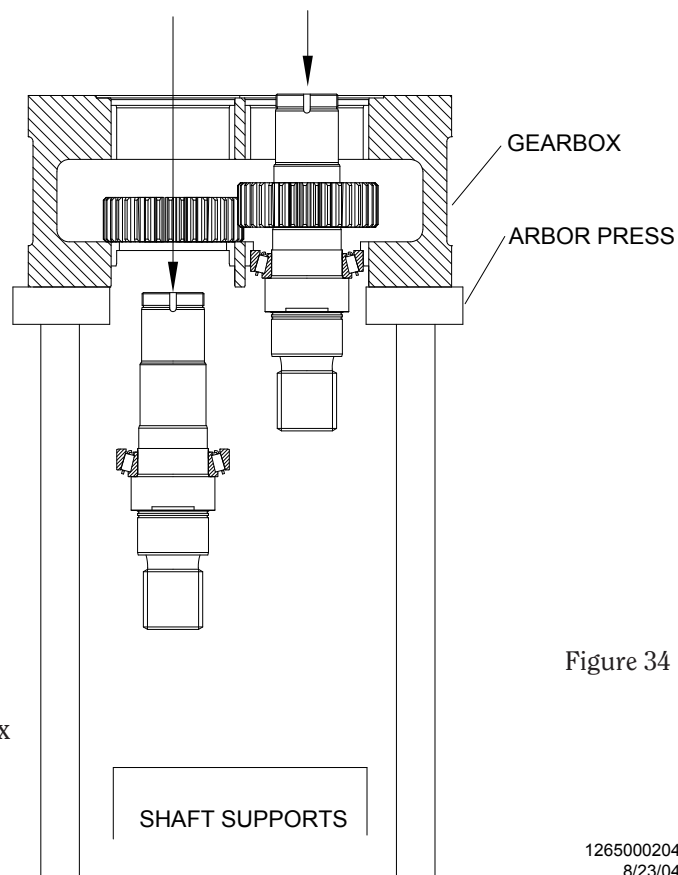

Figure 34
- j) Place the gearbox on an arbor press with the spline ends of the shafts facing down as shown in Figure 34. Press on both shafts to remove them from the gearbox until you hear a click. This will be the sound of the snap ring falling into the groove of the shaft behind the bearing lock nut thread.